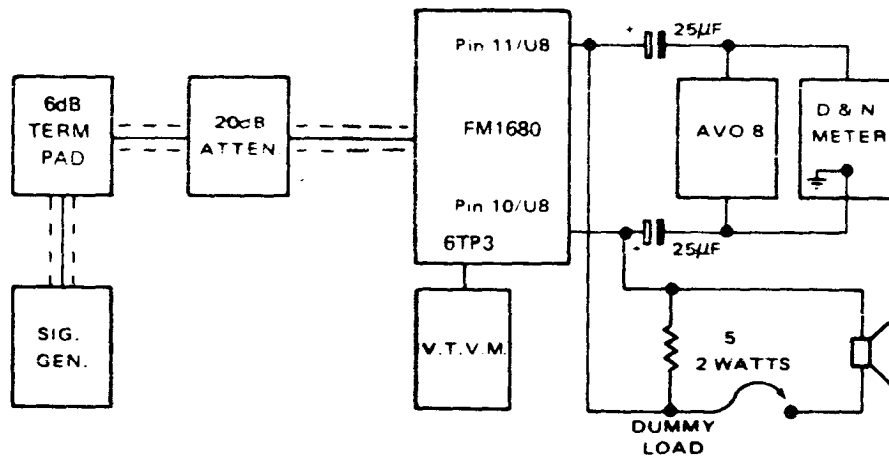

Figure 6
1. Set up the equipment as shown in Figure 6.
4. Adjust trimmers 4C1, 4C3, 4C6, 4C10 and 4L9 for maximum S/N ratio while gradually reducing the output of the signal generator until a S/N ratio of 32 dB (N) or 40 dB (NW) is obtained with an input of $1 \mu\text{V}$.
7. Tune 4C3 for maximum S/N ratio while decreasing the output of the signal generator to maintain a S/N ratio of 32 dB (N) or 40 dB (NW).
10. Re-tune 4C6, 4C10 while decreasing the output of the signal generator until a S/N ratio of 32 dB (N) or 40 dB (NW) is obtained.